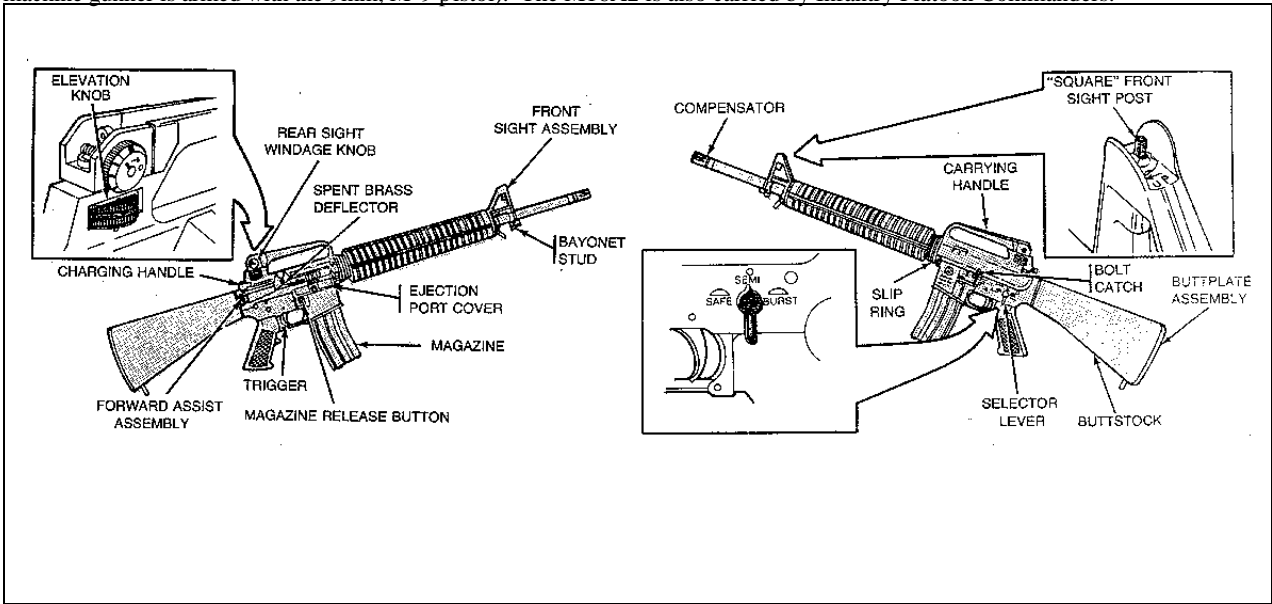

Figure 3. Nomenclature
1. **Operational Characteristics.** The M16A2 rifle is a 5.56mm, magazine-fed, gas operated, air-cooled, shoulder-fired weapon (Figure 3). The M16A2 is carried by all enlisted Marines whose duties do not preclude their firing it (for example, a machine gunner is armed with the 9mm, M-9 pistol). The M16A2 is also carried by Infantry Platoon Commanders.